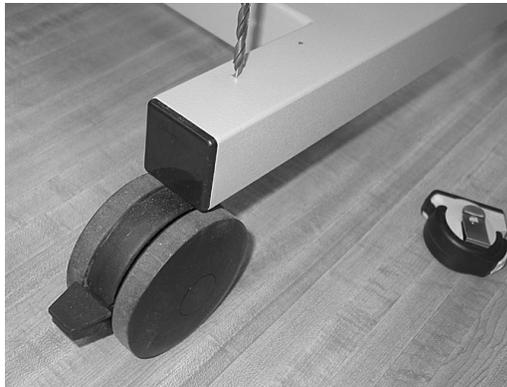

Figure 3.24
7. Using $17/64"$ (.265) drill bit, drill through both bracket walls. (Figure 3.24)